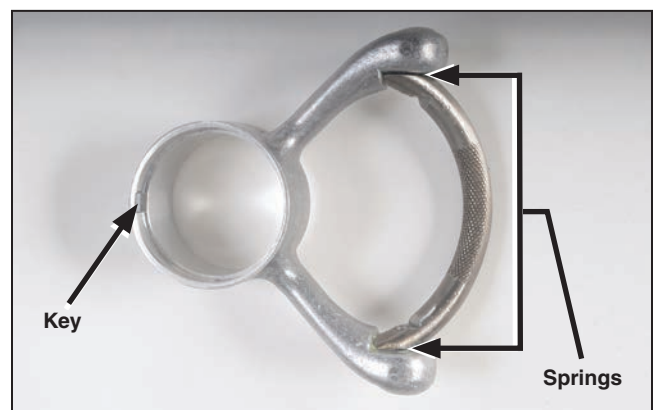

Figure 23. Inspect the anchor assembly.
STEP 19. Inspect the anchor assembly. Use an Emery cloth to polish the surface and remove pitting. If the anchor assembly is severely pitted or burned, or if the spring does not work, replace the anchor assembly. See Figure 23.